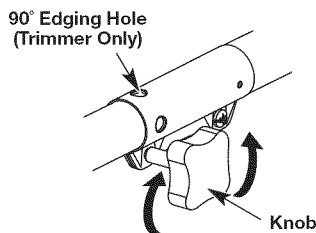

Fig. 3
1. Turn knob counterclockwise to loosen (Fig. 3).
3. Turn the knob clockwise to tighten (Fig. 3).
For decorative edging with the line head trimmer attachment or other attachment, lock the release button of the attachment into the 90° hole (Fig. 3).
1. Turn the knob counterclockwise to loosen (Fig. 3).